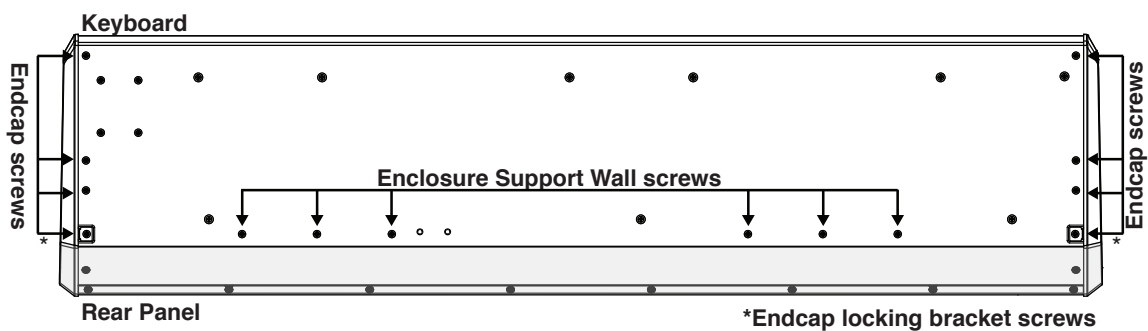
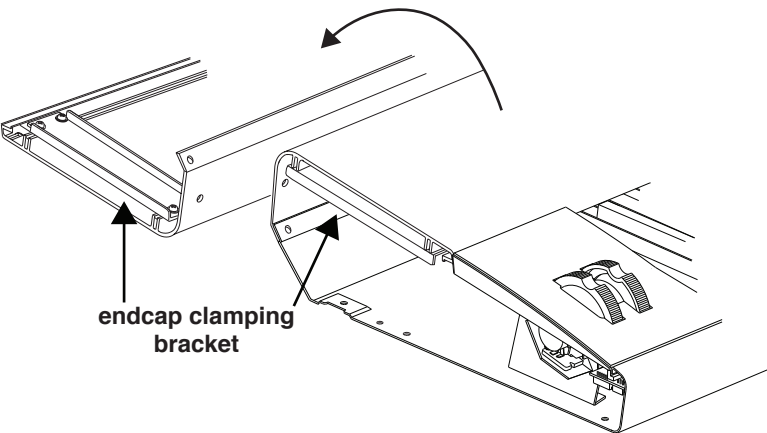

Figure 4-1 SP5-8 bottom enclosure, hardware locations
Figure 4-4
Refer to Figure 4-1. Arrows indicate the locations of the enclosure support wall and endcap screws.
3. Refer to Figure 4-1. Remove the four screws that secure the endcap to the bottom enclosure. One screw (noted with an * in Figure 4-1) secures the endcap locking bracket into the endcap clamping bracket (see Figure 4-4). When you remove the endcap locking bracket screw, it should remain in the endcap. If the bracket is still “locked” into the top enclosure, pull it slightly to unlock it and remove the endcap. Set the endcap safely aside.